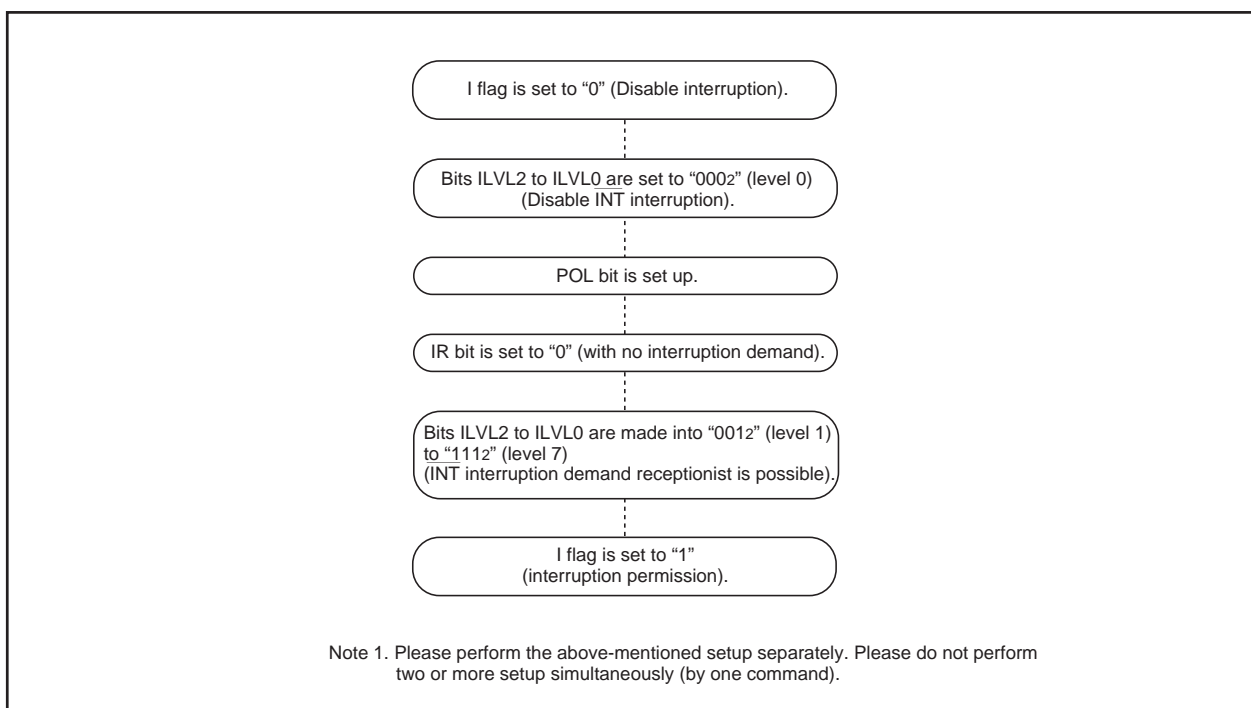

Figure 7.14. The example of change procedure of INT interruption generating factor
(1) Address 00000₁₆ read-out
(2) Setting of SP
- IR bit may be set to "1" (those with an interruption demand) when changing the polarity of pins $\overline{\text{INT}}_0$ to $\overline{\text{INT}}_3$. Please set IR bit to "0" (with no interruption demand) after changing. The example of a change procedure of an $\overline{\text{INT}}$ interruption generating factor is shown in Fig. 7.14.